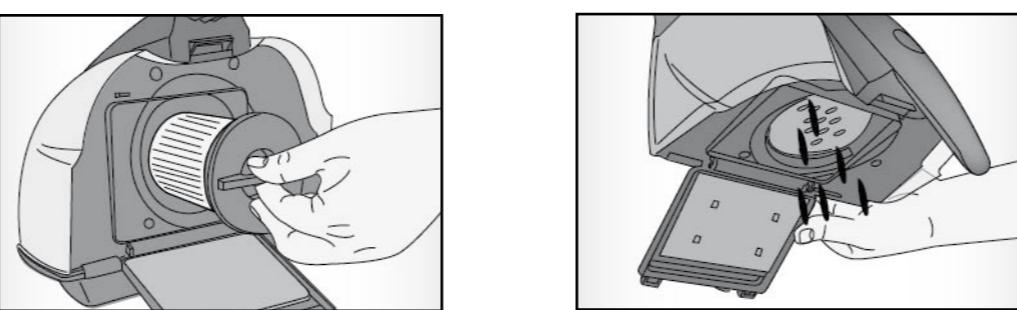

Fig. 9
- Empty the dust container (7) (Fig. 9).
- To refit the filter on the dust container (7), insert it and turn it clockwise. Click the hatch shut.
- Refit the dust container (7) onto the body of the appliance (8) so that it clicks into place.